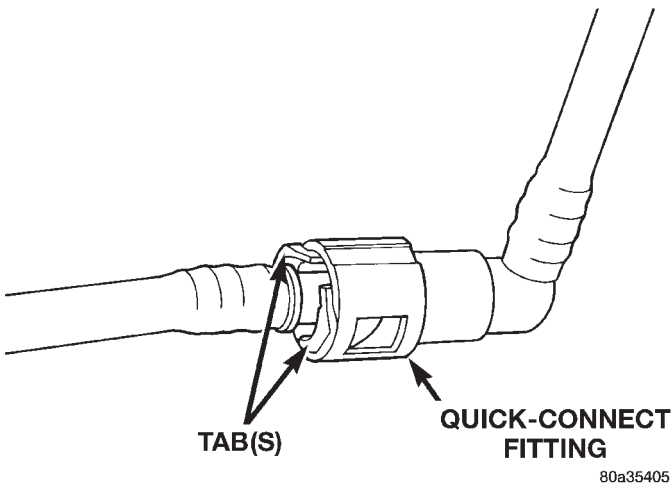

Fig. 16 Typical Two-Tab Type Quick-Connect Fitting
(5) **Two-Tab Type Fitting:** This type of fitting is equipped with tabs located on both sides of fitting (Fig. 16). The tabs are supplied for disconnecting quick-connect fitting from component being serviced.
(a) To disconnect quick-connect fitting, squeeze plastic retainer tabs (Fig. 16) against sides of quick-connect fitting with your fingers. Tool use is not required for removal and may damage plastic retainer.